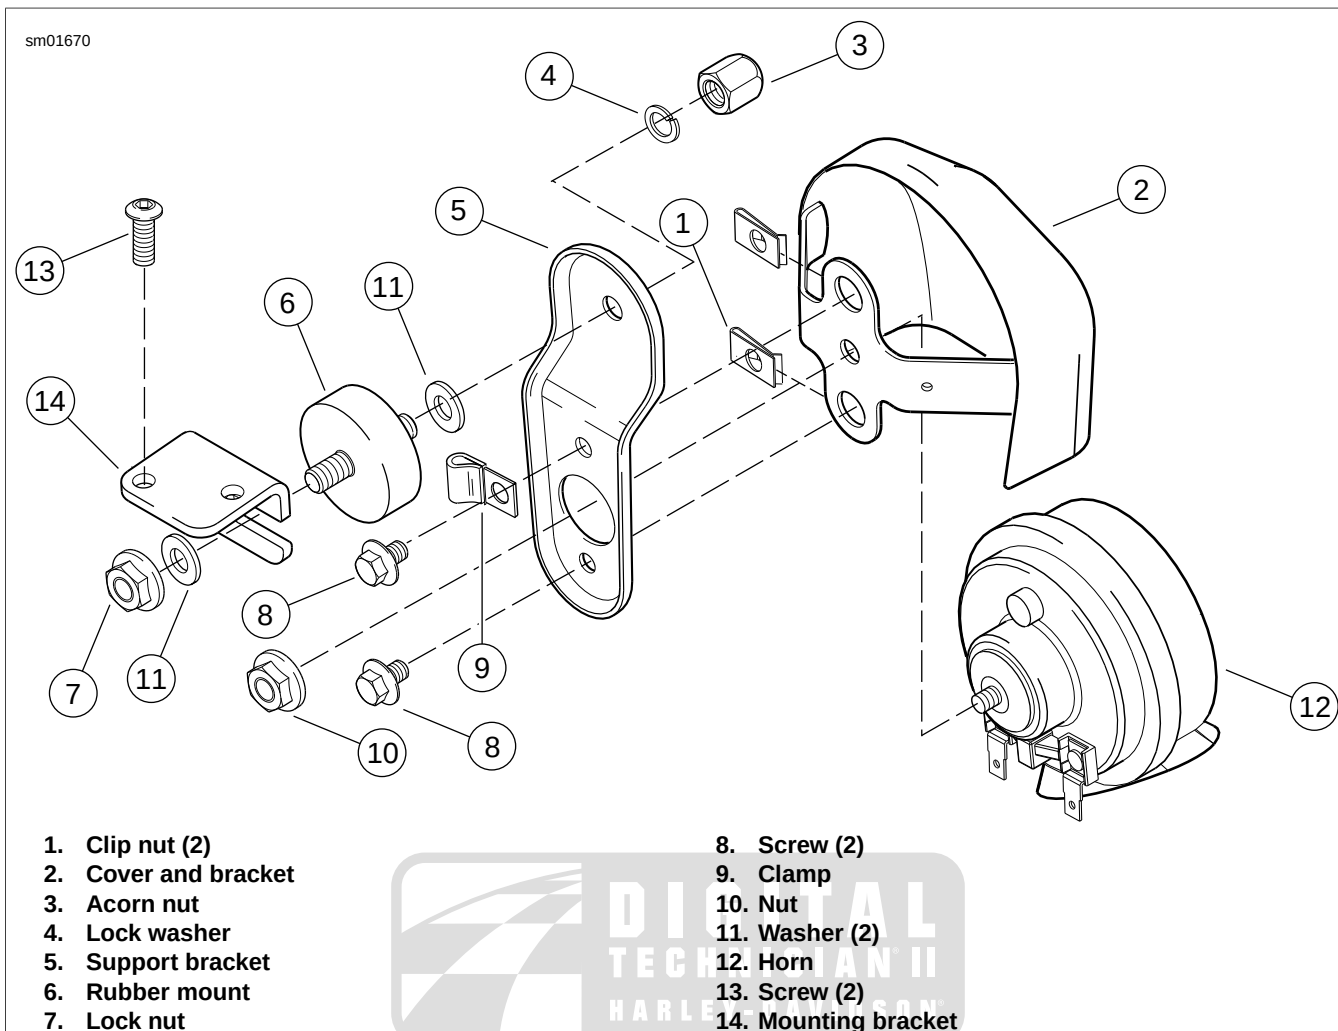

Figure 6-136. Horn Components (Models with Side Mounted Horn)
1. See Figure 6-136. Remove terminal clips from horn spade connections on back of horn (12).
2. Remove acorn nut (3) and lock washer (4) to free horn assembly from rubber mount (6) stud.
3. Remove wire conduit from clamp (9) at back of support bracket (5).
4. Remove nut (10) from circular recess at back of chrome cover and bracket (2) and remove horn (12) from cover and bracket.
5. Slide horn (12) into chrome cover and bracket (2) pushing stud at back of horn assembly through hole in horn support bracket (5). Apply two drops of LOCTITE THREAD-LOCKER 271 (red) to threads of nut (10). Install nut (10) on horn stud and tighten to 80-100 **in-lbs** (9.0-11.3 Nm).
6. Attach the yellow wire with black tracer to front terminal and the black wire to rear terminal. Push wire conduit into clamp (9) at back of horn bracket (5).
7. Install support bracket (5) on rubber mount (6) stud with lock washer (4) and acorn nut (3). Tighten acorn nut (3) to 60-180 **in-lbs** (6.8-20.4 Nm).